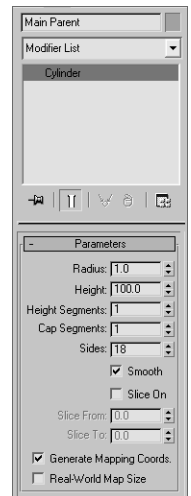

Figure 2.7
6. You need to size the cylinder (Main Parent) to make it a bar. Under the Parameters heading in the Modify panel, you’ll notice a handful of parameters for Main Parent, as shown in Figure 2.7. If you don’t see anything there, make sure the cylinder is selected. The Modify panel will display the parameters for the selected object only. To adjust the parameters for the bar, you can type values directly into the appropriate boxes. You can also use the Up and Down arrows on the right either by clicking on the arrows or by clicking and dragging up or down on the arrows. Change the Radius to 1 unit, Height to 100 units, and Height Segments to 1 (as shown in Figure 2.7). Your cylinder should look like a bar, as shown here. For a quick explanation of the other cylinder parameters, see the following note.